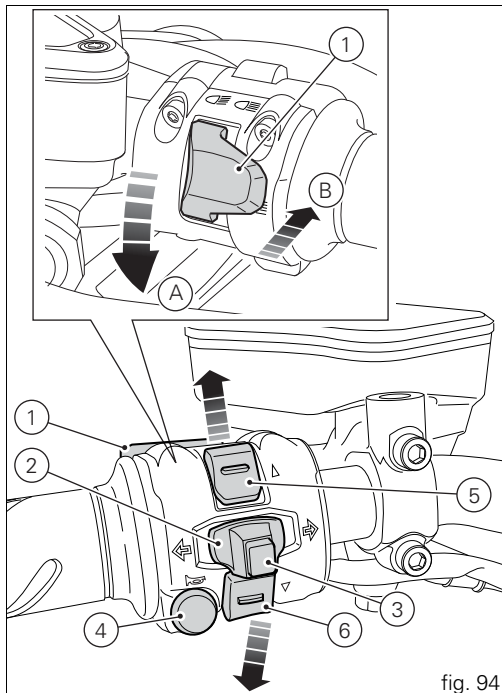

fig. 94
LH switch (fig. 94)
- 1) Dip switch, light dip switch, two positions (fig. 94):
- 2) Button  = three-position turn indicator (fig. 94):